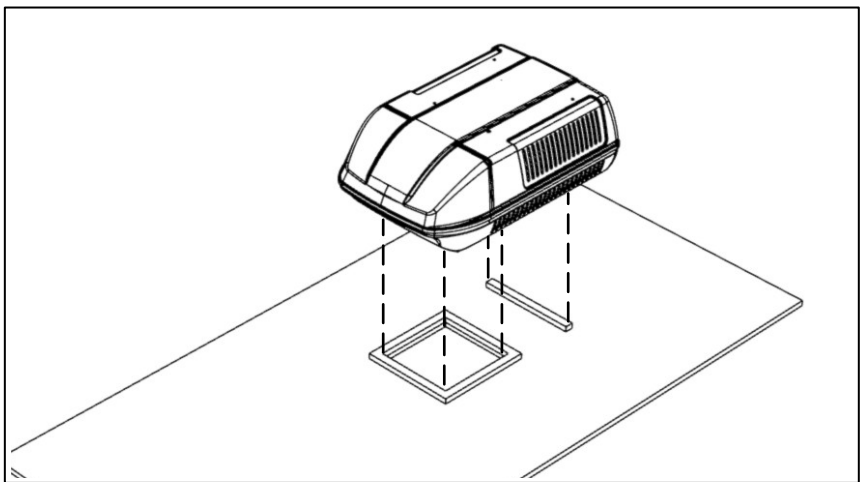

Fig 6: Position the CORMORANT over the roof gasket and set it down gently
- Position the unit over the gasket so that the corners of the square hole in the caravan roof line up with the corners of the square hole underneath the CORMORANT (Fig 6).